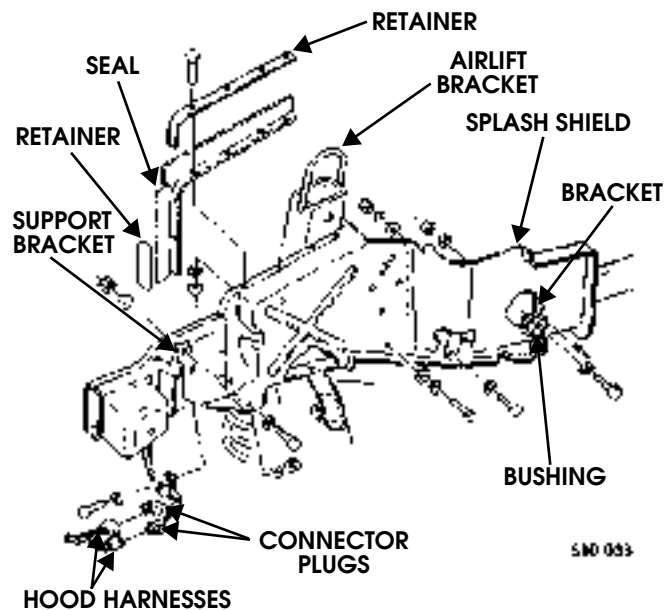

Figure 10-99: Engine (Left) Splash Shield Assembly Replacement
2. Disconnect hood harness connector receptacles from connector plugs (Figure 10-99).
8. Remove locknut, two washers, bolt and splash shield from bracket (Figure 10-99).
1. Remove seven locknuts, washers, screws, seal, and two retainers from splash shield (Figure 10-99).
1. Secure bushing to splash shield with four rivets (Figure 10-99).
1. Secure splash shield to bracket with, bolt, washers, and locknut (Figure 10-99).
3. Secure two connector plugs to splash shield with clamp, screw, two washers, and locknut (Figure 10-99).